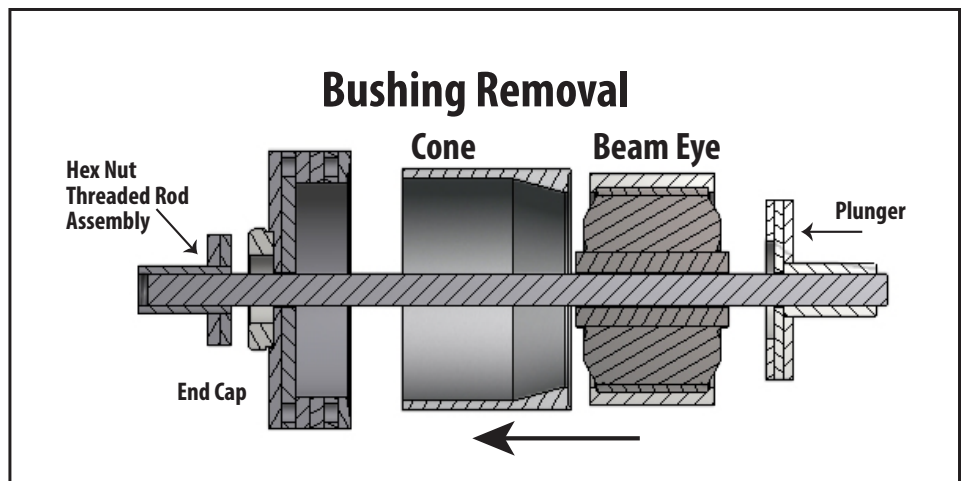

Figure 1.
2. Assemble the bushing replacement tool and place on the eye of the beam (Figure 1). NOTE: Cone is tapered inside to a smaller opening on one end.